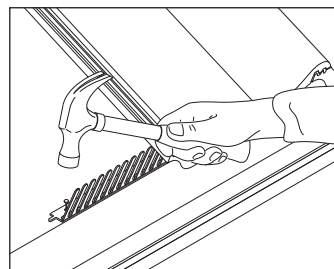

Fig. 6
- 9 Nail comb eaves filler strip to top of fascia board using 45mm x 3.35mm (10mm OFV) or 60mm x 3.35mm (25mm OFV) aluminium nails at every nail hole position (Fig 6).